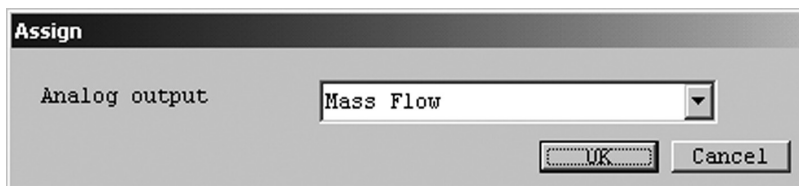

Fig.20
② A message box as shown in Fig. 20 appears. At this window, Analog outputs and Pulse output are assigned.